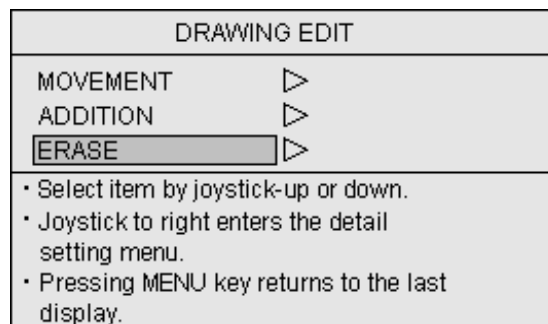
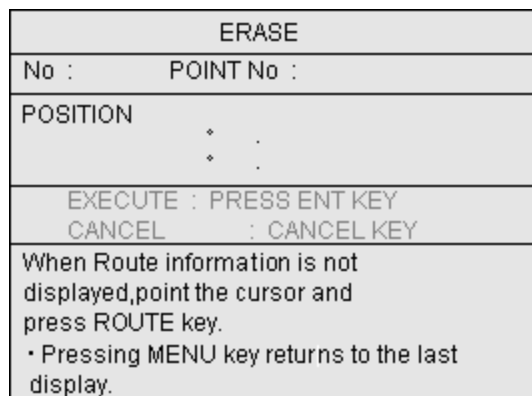

Figure 6.43 DRAWING EDIT menu
Figure 6.44 ERASE menu
- (1) Press the MENU key to display the menu.
- (2) Press the Joystick up or down to highlight DRAWING EDIT.
- (3) Press the Joystick to the right to enter the DRAWING EDIT menu. (Figure 6.43)
- (4) Press the Joystick up or down to highlight ERASE.
- (5) Press the Joystick to the right to enter the ERASE menu. (Figure 6.44)